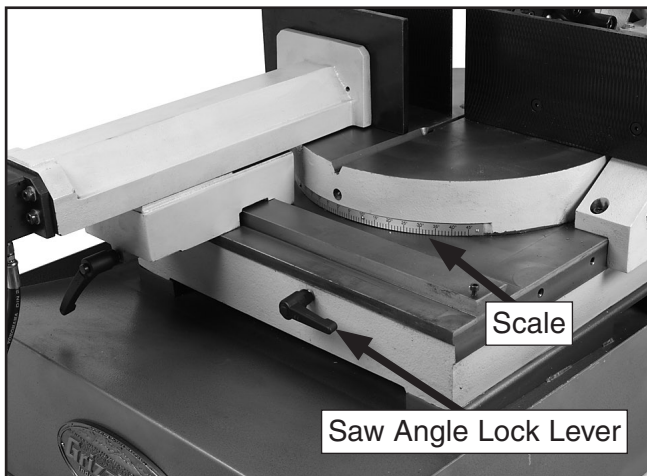

Figure 23. Saw angle lock lever.
2. Loosen the saw angle lock lever, rotate the saw bow to the desired angle, as indicated by the scale, then re-tighten the swivel lock lever (Figure 23).